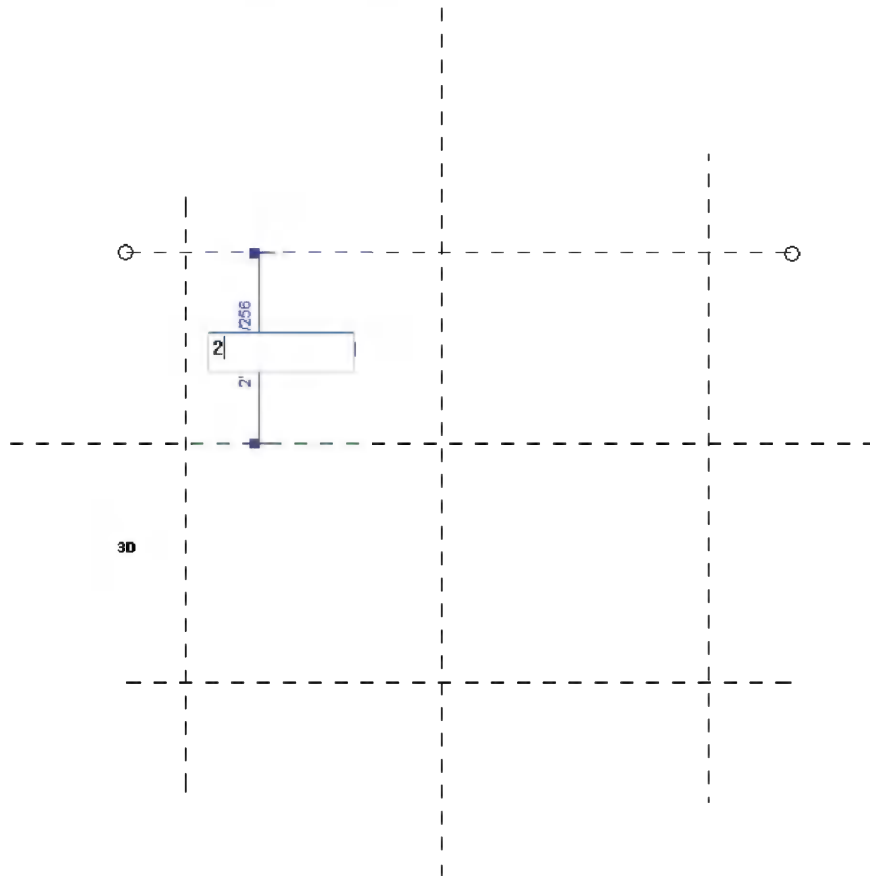

FIGURE 15-2.7 Top “horizontal” reference plane selected
10. Select the top horizontal *Reference Plane* (Figure 15-2.7).
11. Edit the *Temporary Dimension* to be **2'-0"** (Figure 15-2.7).